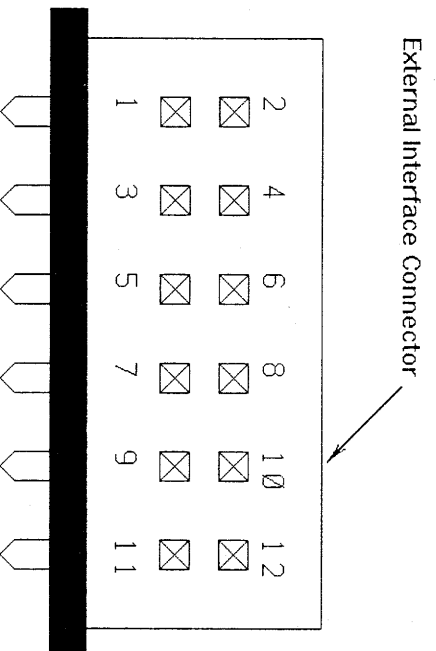

Figure 5.
Figure 5 sho
External electrical connections can be made to the monitor using the "external interface" (figure 2, item 6). External wires are routed through the back plate (figure 2, item 11), and terminated with a 12-position socket carrier (supplied). The socket is then connected to the "external interface" of the monitor (figure 2, item 6). Figure 5 shows the pin numbers of the external interface connector. Additionally, pins 1 and 2 are identified on the printed circuit board. Refer to the Specifications sections for ratings. Functions available are: